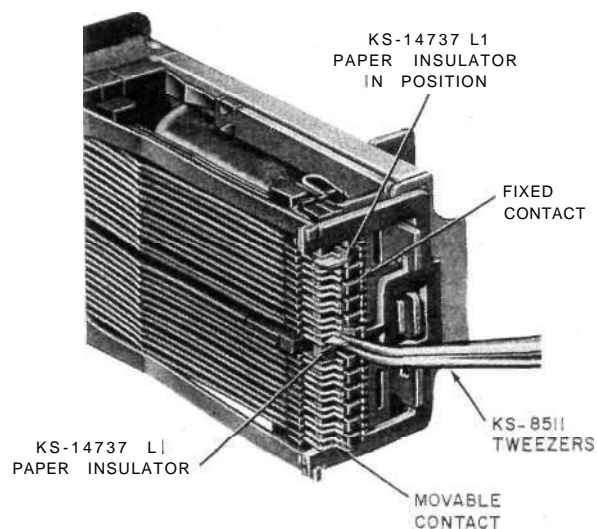

Fig. 44—Insulating Contacts of Wire-Spring Type Relays (AJ-Type Illustrated)
5.04 *Insulating Contacts on AF-, AG-, AJ-, AK-, AL-, AM-, BF-, BJ-, BL-, BM-, 286-, and 288-Type Relays (Wire Spring Types):* Fig. 44.
(1) Use the KS-14737, L1, paper insulator, as covered in (3). The procedures for insulating normally open or normally closed contacts are the same, except in the case of normally closed contacts, block the relay operated as covered in paragraph 3.08. Remove the blocking tool after the insulator has been positioned between the contacts.
(2) The KS-14737, L1, paper insulator, is a small bond paper insulator folded down the middle with two ears folded out at one end. When the main folds are held together, the insulator assumes the shape of a Y. In order to avoid contaminating these insulators, they should be kept in their container until required for use.
(3) To insulate a contact, first remove the contact cover from the relay. Remove an insulator from the container with the KS-8511 tweezers, taking care not to damage or soil the insulator. Hold the insulator with the tweezers from the side opposite the center fold with the tip of the tweezers approximately at the center of the insulator. Check that the ears are in a position so the insulator is in the form of a Y, and if necessary, bend the ears to this shape. Place the ears of the insulator against the fixed contact at an angle of approximately 45 degrees to the movable contacts, as shown in Fig. 44. Position the insulator so the main folds are between the twin movable contacts with the ears against the fixed contact. After the insulator has been partially inserted in this way, push it back against the card with the side of the tweezers. Remount the contact cover.
(4) To remove an insulator, first remove the contact cover. Then remove the insulator with the tweezers, manually operating the relay if the insulator is between break contacts. Remount the cover.